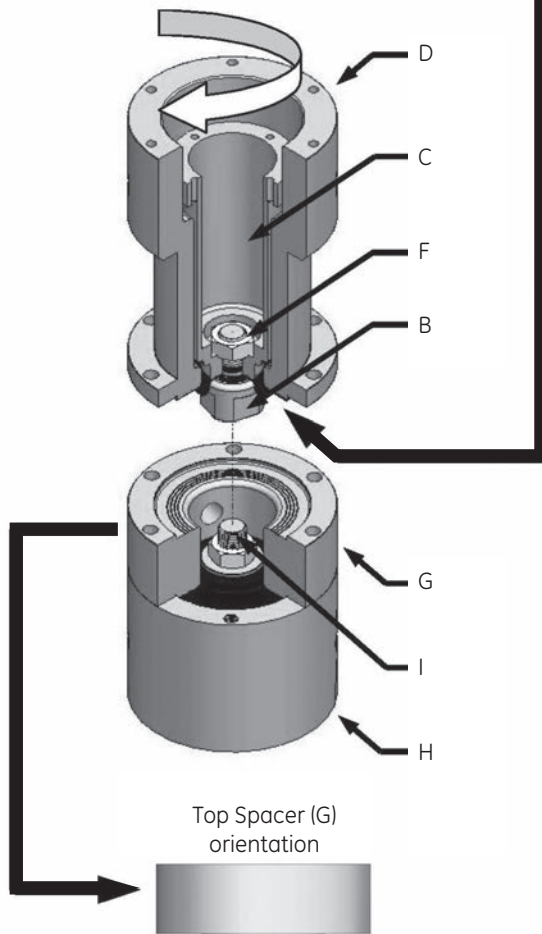

Figure 30 – 600-CH Top Spacer Assembly
Step 1: Orient the top spacer (G) onto the top body assembly (H) as shown in Figure 30.
Step 2: Place the diaphragm assembly onto the top spacer (G).
Step 3: Making sure not to twist the diaphragm (E), thread the bottom piston (B) into the outside piston (I) by holding the spring chamber (D), and rotating the inner tube (C) clockwise.
Step 4: Rotate the inner tube (C) with the same socket wrench used to hold the jam nut (F) in the diaphragm assembly.
Step 5: When the inner tube (C) cannot be rotated any more, do not force it; the assembly should only be hand-tight.